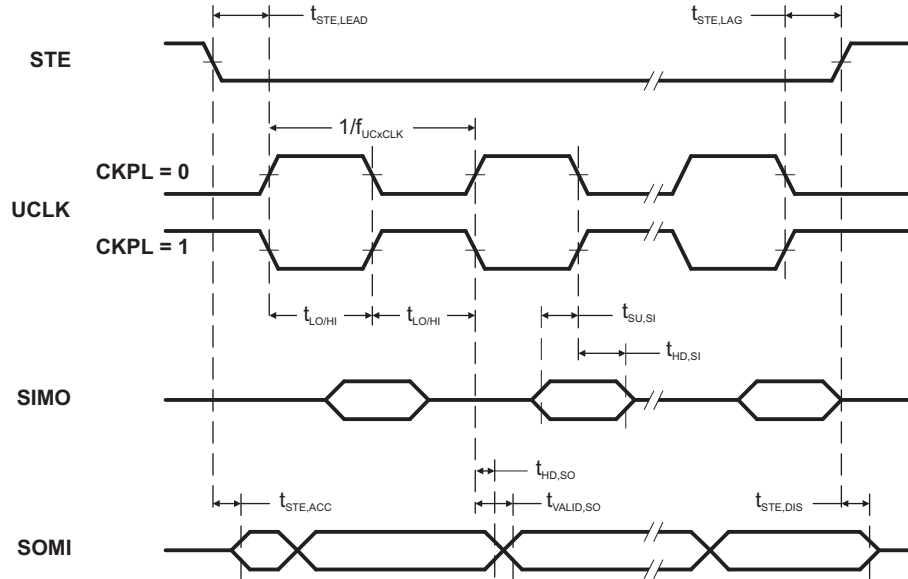
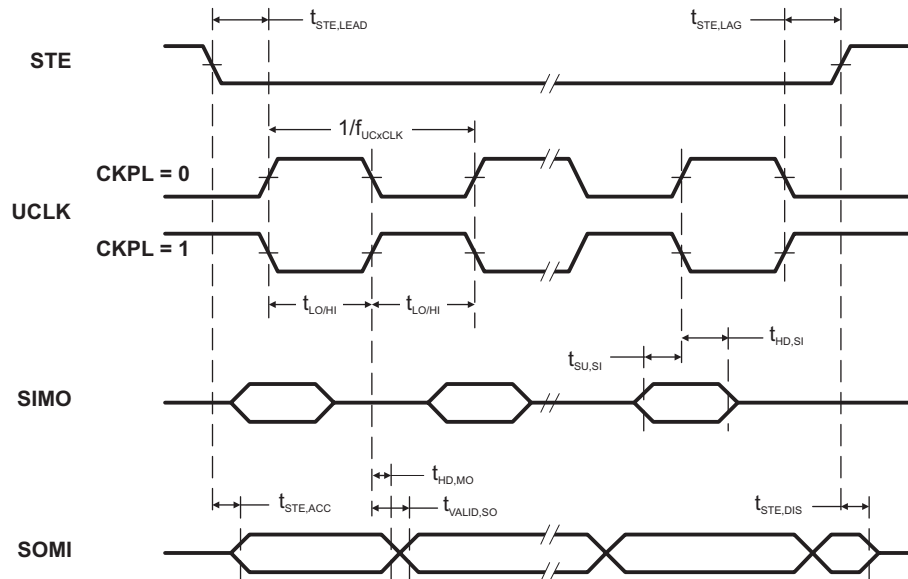

Figure 19. SPI Slave Mode, CKPH = 0
Figure 20. SPI Slave Mode, CKPH = 1
over recommended ranges of supply voltage and operating free-air temperature (unless otherwise noted)(1) Figure 19 Figure 20